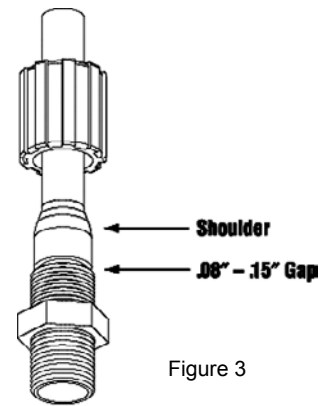

Figure 3
- Push the flared tubing end onto the fitting body until the end of the fitting body contacts the flare shoulder of the tube (see Figure 3). The maximum gap between the tube end and end of threads should be .08 - .15".